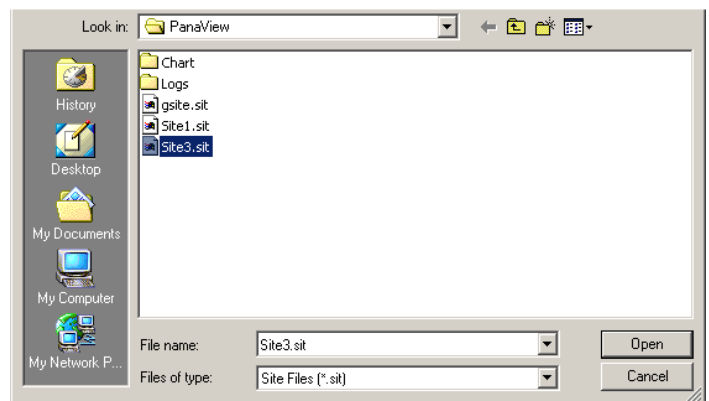
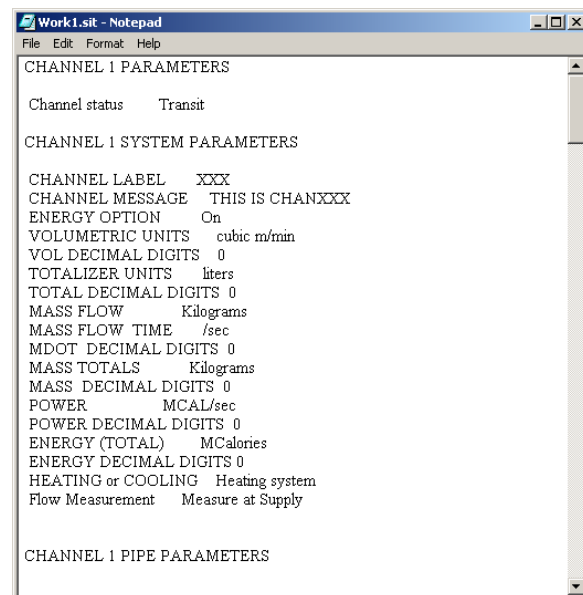

Figure 52: Site file selection
Figure 54: Printout of site file
2. Then click on the [save site to meter] button. A screen similar to *Figure 52* below opens.
3. The *site file selection* window (*Figure 52* on *page 76*) opens. Highlight a site file with the desired settings, and click [open]. The site file becomes the *working* site in the meter with the desired settings.
2. Click [save site to PC]. A window similar to *Figure 52* on *page 76* opens.
1. Highlight the site in the left pane. (see *Figure 52* on *page 76*.)
3. The *site file selection* window (shown in *Figure 52* on *page 76*) opens. Enter the desired site name (now with a.prt suffix) and click on [save]. PanaView displays a text version of the site, as shown in *Figure 54* on *page 77*.